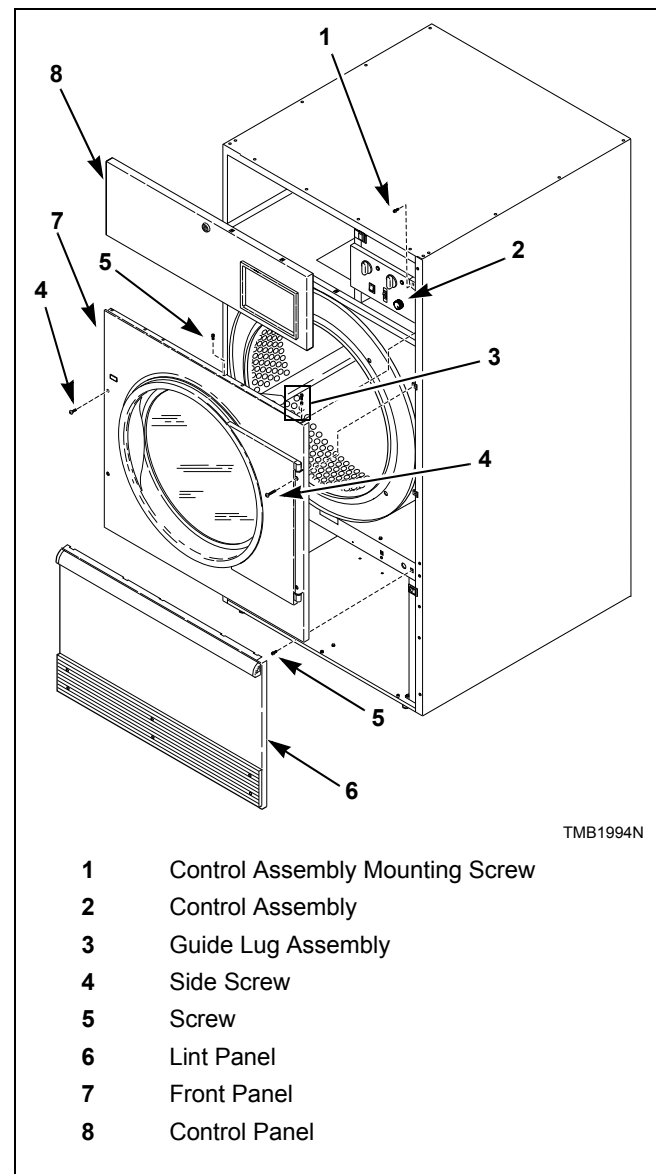
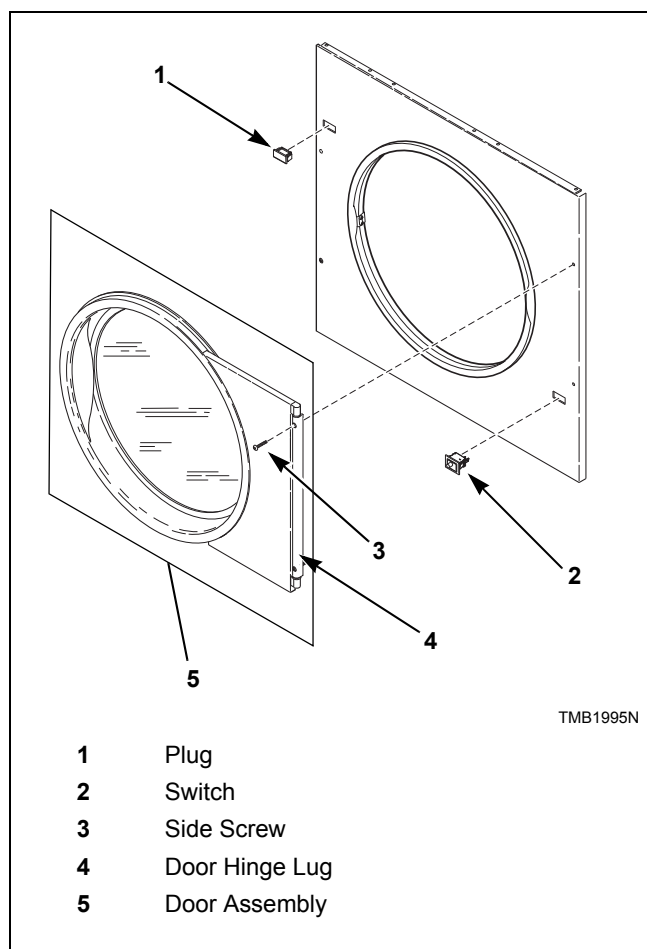

Figure 10
Figure 11
2. Unlock and remove control panel. Remove two control assembly mounting screws from right side. Swing open control to access upper flange right guide lug assembly. Refer to *Figure 10*.
4. Remove four front panel screws. Refer to *Figure 10*. Keep door hinge cams in place on door hinge lug. Pull lug and door assembly off as one piece. Refer to *Figure 11*.
5. Remove remaining front panel screws. Refer to *Figure 10*. Disconnect door switch harness from switch. Take off front panel. Refer to *Figure 11*.
6. Exchange switch and plug locations. Depress tabs with an adjustable pliers to remove plug and switch from front panel. Reinstall switch, orienting button toward center of machine. Reinstall plug in switch's previous location. Refer to *Figure 11*.